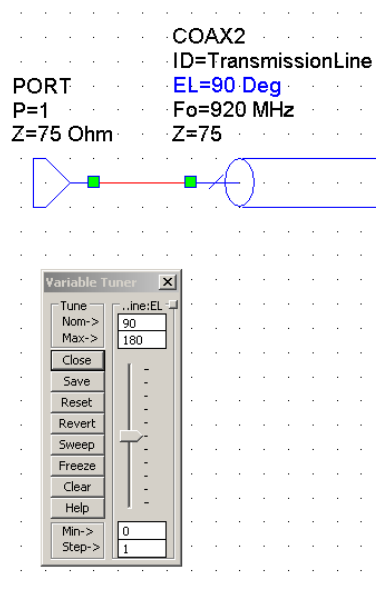

Figure 8.11: Chart 6 : Tuning the Circuit
- Click the ‘electrical length (EL)’ parameter of the transmission line in the Schematic. It should turn blue.
- Select ‘Tune’ in the ‘Simulate’ menu. A dialogue box similar to figure 8.11 should appear.